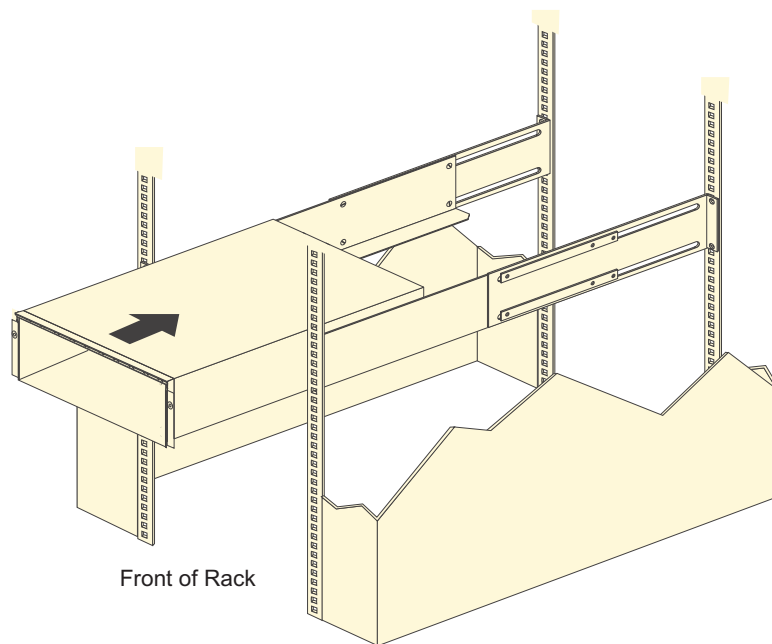

Figure 17. Installing the EXP810
- b. With help from another person, place the back of the storage expansion enclosure on the support rails, and then slide the unit into the rack as shown in Figure 17.